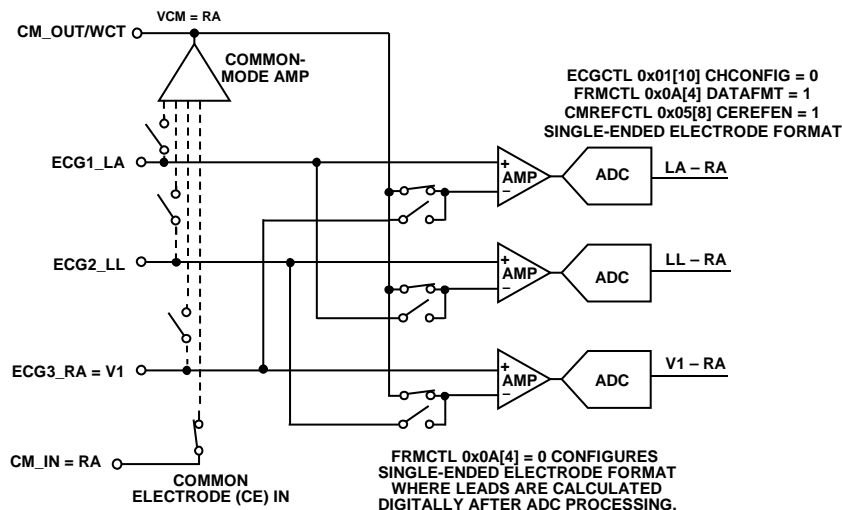

Figure 57. Flexible Front-End Configuration—Showing Common Electrode Configuration
In this mode, all electrodes are digitized relative to a common electrode (CE), for example, RA. This arrangement enables input on four electrode paths, ECG1, ECG2, ECG3, and CM_IN. Standard leads must be calculated by post processing the output data of the ADAS1000-3/ADAS1000-4. See Figure 57.
⁴ Common electrode mode as shown in Figure 57.